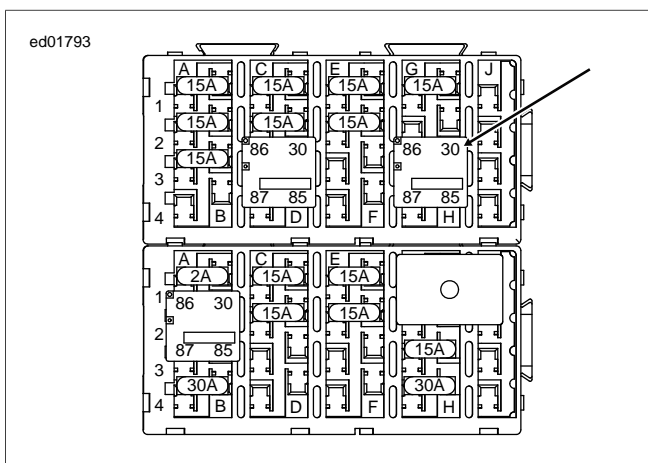

Figure 1-4. Start Relay
1. See Figure 1-4. Locate the start relay behind the left side cover.